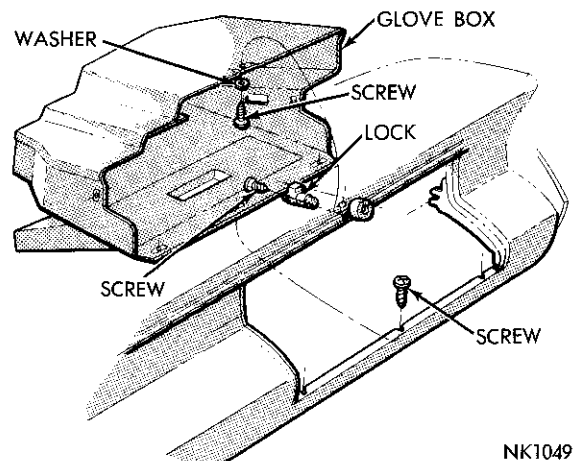
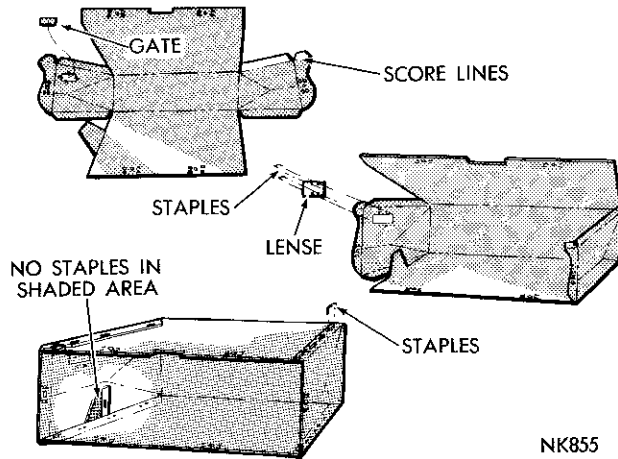

Fig. 39—Glove Box Installation (Chrysler)
Fig. 40—Assembling the Glove Box (Chrysler)
- (1) Remove the glove box door and disconnect the deck lid vacuum switch lines at the switch.
- (2) Remove the screws attaching the glove box to the instrument panel (Fig. 39) and remove the glove box assembly.
- (3) Remove the glove box map drawer and housing (Fig. 39).
- (4) Remove the screws attaching the upper glove box half to the lower half.
- (5) Remove the tissue container retainer screw and the map drawer screws.
- (6) Remove the nut attaching the vacuum switch to the mounting bracket (Fig. 40).
(1) In the new cover, drill the necessary holes for the vacuum switch attachment. The large hole is a one (1) inch diameter and the three smaller holes are a 7/32 inch diameter (Fig. 40).
(2) Position the switch mounting bracket on the glove box upper half and install the retaining screws and washers.
(3) Position the vacuum switch in the mounting bracket and install the retaining screws and nuts.
(4) Position the glove box map drawer housing on the glove box lower half and install the attaching screws.
(5) Set the glove box upper half in position on the lower half and install the attaching screws.
(6) Install the tissue container retainer.
(7) Position the map drawer in the housing and